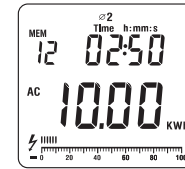

Figure 23
4. Press **SELECT** to choose one of the three phases ($\varnothing 1$, $\varnothing 2$, $\varnothing 3$), see figure 23.